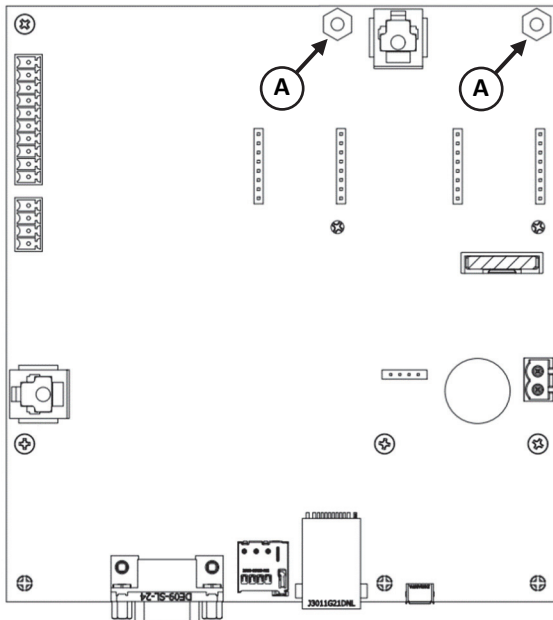

Figure 1.0
3. (1) 11mm standoff, marked “A” (Figure 1.0) is pre-installed for mounting and grounding the option board and must align with the through hole.